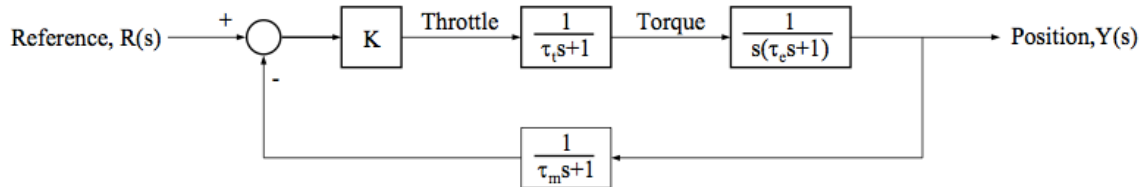

Figure 3: Engine position control system
3. A position controller for a gasoline engine is shown in Figure 3. The restriction at the carburetor intake and the capacitance of the reduction manifold may be modelled by a first order system whose time constant, τ_t , is 2 seconds. The engine time constant τ_e is equal to 3 seconds while the time constant of the position sensor speed, τ_m , is 1 second.